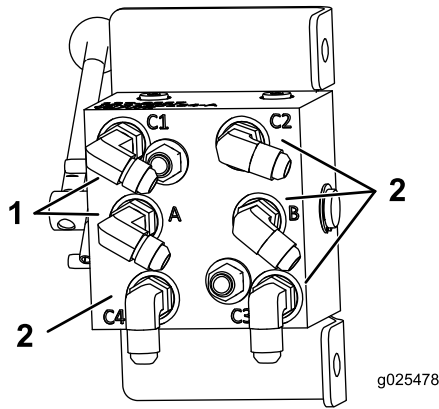

Figure 8
2. Attach the valve fittings to the valve as shown in Figure 8.